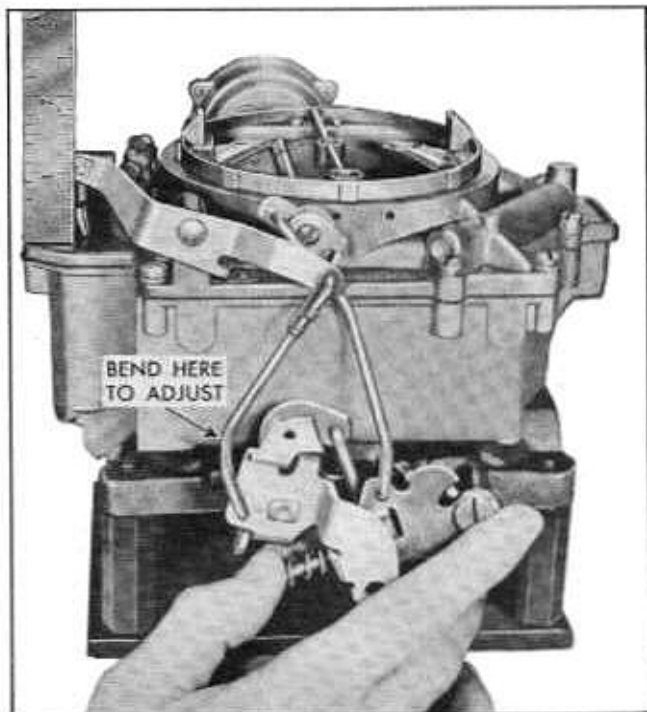

Fig. 6B-100 Checking Pump Plunger Adjustment
2. Hold throttle closed and measure from top of air horn casting to bottom of pump plunger rod (Fig. 6B-100). Distance should be $3\frac{1}{32}$ ". Bend pump rod where shown to correct.